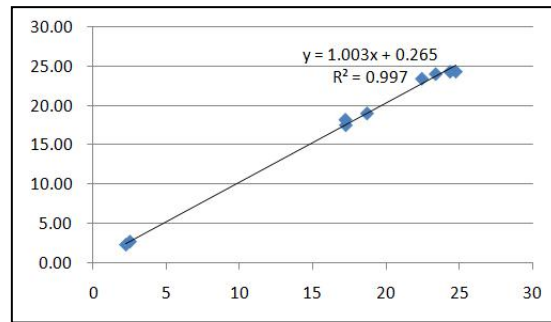

Fig 7
- c) Select the data on the coordinates, Right-click, Choose: Add Trendline, The screen will display the dialog box, After "Display formula" check, Press Close to obtain the Fig 7.
- d) According to the formula in Fig. 7, $y = 1.003x + 0.265$, a correction coefficient can be obtained. 1.003 is the slope, 0.265 is the intercept.